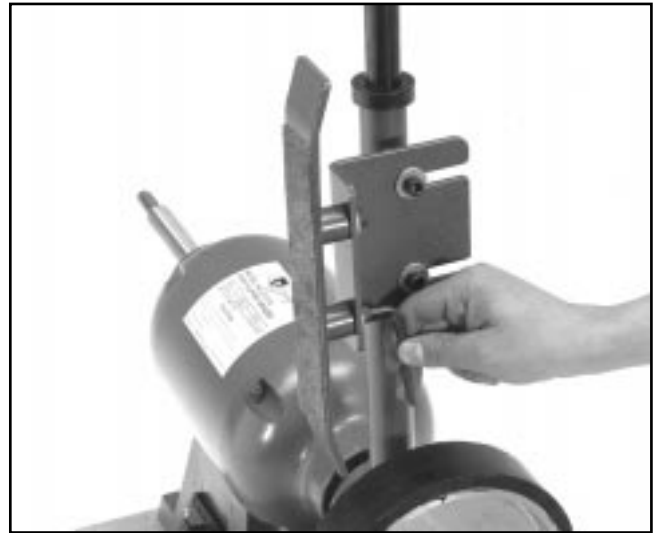

Figure 10. Attaching sanding belt shoe.
Now attach the shoe with the graphite surface to the mounting bracket as shown in **Figure 10**. Secure these two (2) cap screws with a 6 mm Allen® wrench. Both of these sets of mounting bolts are slotted and allow adjustment of the shoe in and out, and side to side. After the belt is installed you will want to do a final adjustment to the shoe so it just makes light contact with the back of the belt, and make certain it is centered on the belt.